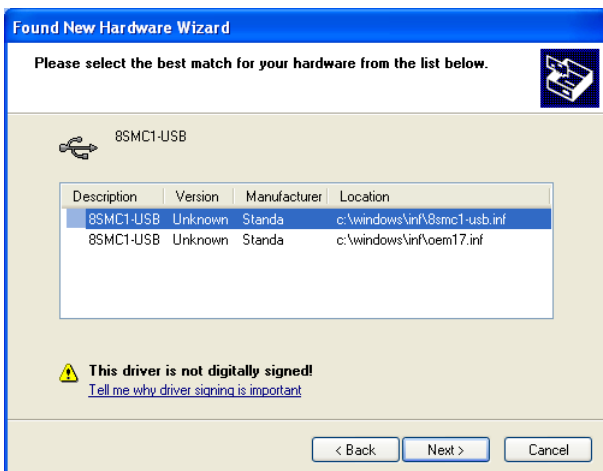

Figure 63. Hardware wizard 4th screen
- If other 8SMC1-USBhF controllers were installed on computer earlier, screen Figure 63 may appear. Choose 8SMC1-USB.inf and press "Next" button.